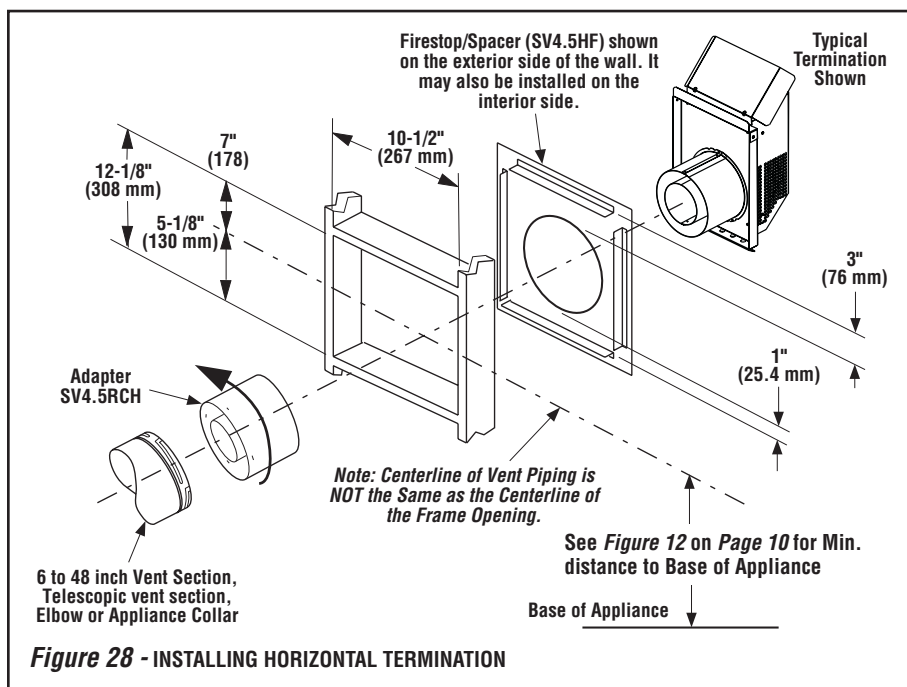
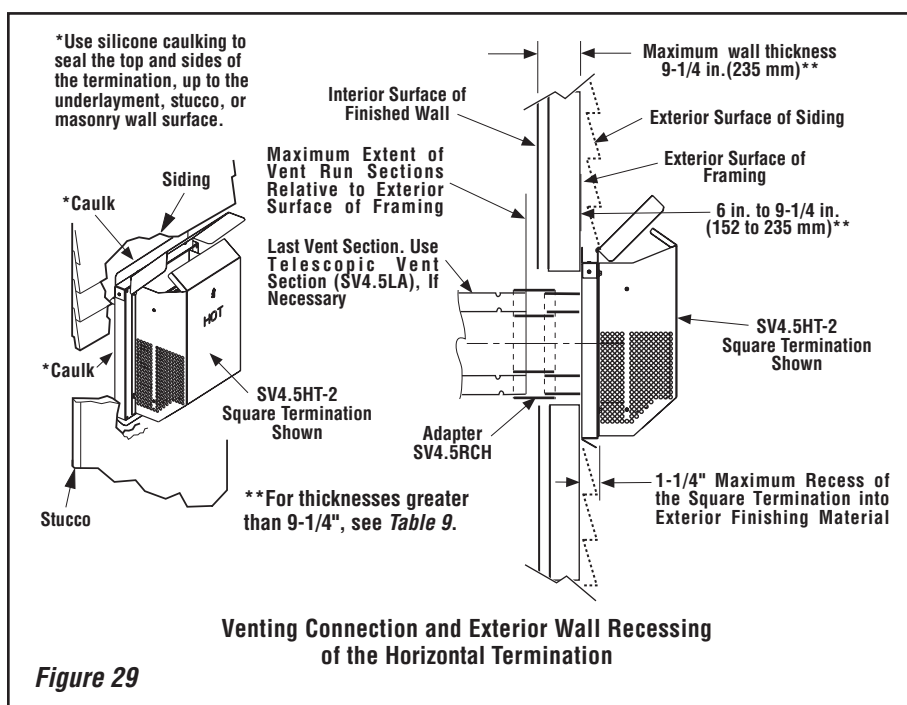

Figure 28 - INSTALLING HORIZONTAL TERMINATION
Figure 29
J. Assemble vent run to exterior wall - If not previously measured, locate the center of the vent at the exterior wall. Prepare an opening as described in **Step B and Figure 28**. Assemble the vent system to point where the terminus of the last section is located relative to the exterior surface to which the termination is to be attached as shown in **Figure 29 and Table 9**.
If the terminus of the last section is not within this distance, use the **telescopic vent section SV4.5LA**, as the last vent section. For wall thicknesses greater than that shown in **Figure 29**, refer to **Table 9 on Page 20**. This Table lists the additional venting components needed (in addition to the termination and adaptor) for a particular range of wall thicknesses.
K. Attach termination adaptor - Attach the adaptor (SV4.5RCH - provided with the termination) to the vent section or telescoping vent section), elbow or appliance collar as shown in **Figure 28** in the same manner as any SV4.5 vent component (refer to **Step E**).
L. Install Firestop/Spacer at exterior wall - When using the termination, install SV4.5HF (Secure Vent™), SF4.5HF (Secure Flex™) Firestop/Spacer over the opening at the exterior side of the framing, long side up, with the 3 inch spacer clearance at the top as shown in **Figure 28**, and nail into place.
For the last step, from outside the exterior wall, slide the collars of the termination onto the adaptor (the outer inside the outer and the inner outside the inner) until the termination seats against the exterior wall surface to which it will be attached. Orient the housing of the termination with the arrow pointed upwards. Secure the termination to the exterior wall. **The horizontal termination must not be recessed into the exterior wall or siding by more than the 1-1/4" (32 mm) as shown in Figure 29.**
Note: See Figure 29 showing wall thickness range when using SV4.5HT-2 termination kit.